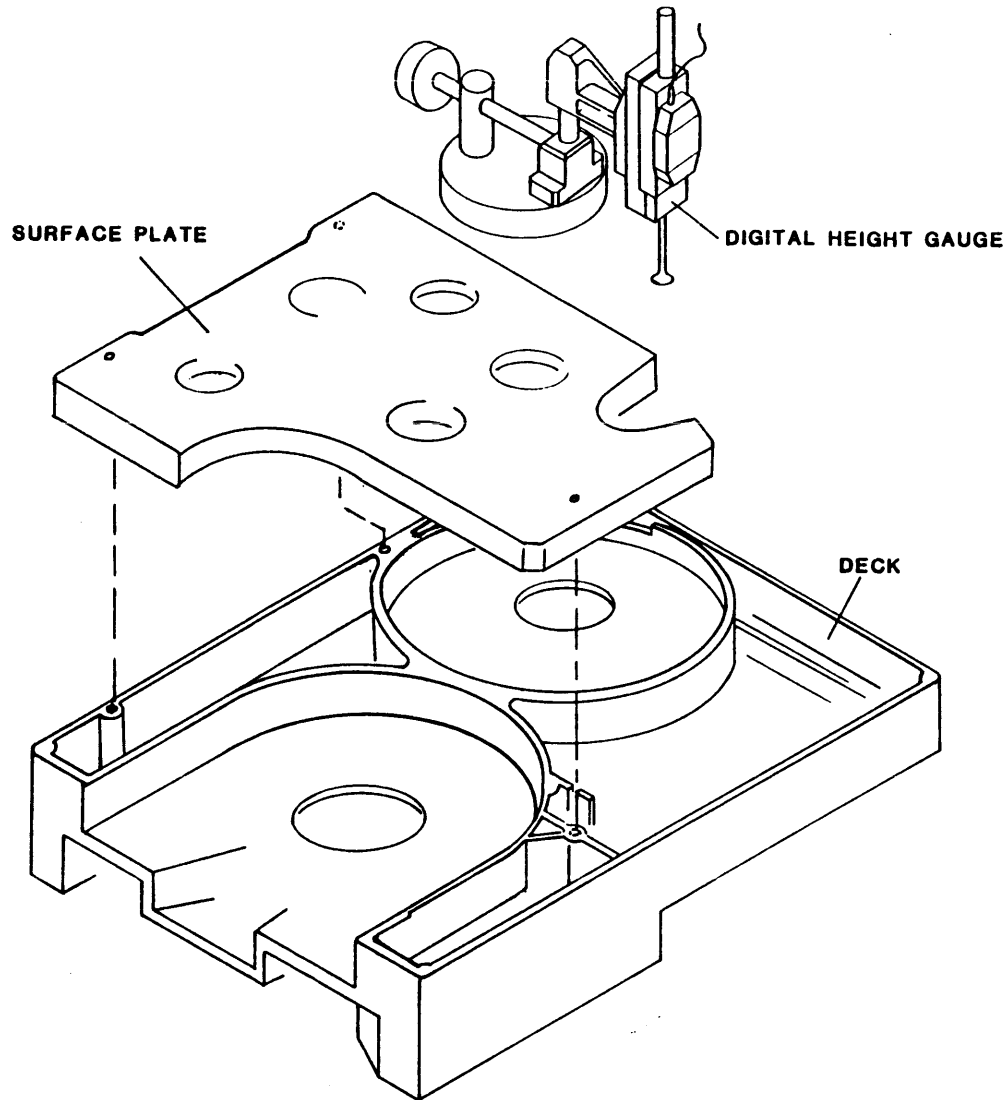

Figure 5-29. Tape Rollers Height Adjustment
5.4.2.1 BUFFER ARM ROLLERS & FIXED ROLLERS HEIGHT ADJUSTMENT (Figure 5-29)
2. Place the Surface Plate on the topside of the Deck, insuring that the two locating pins are in the holes provided on the Deck. Place the Height Gauge on the Surface Plate to begin tape path alignment. Verify distance from 0.500" spacer to top of split guide (supply side) is within tolerance (.7745 ±.0010). See Figure 5-29.
3. Position Height Gauge so indicator pad contacts the top surface of the split tape guide on the supply side of the Head. Zero the Height Gauge. See Figure 5-29. Raise and lower deck gently until digimatic reading repeats to zero. Check the height of Collets and record the readings on data sheet. Re-set Collets to meet the required dimension. Torque the Collet Screw to 19-21 in-lbs. Re-assemble Supply Hub and Take-up Reel and torque the screw to 18-20 in-lbs.